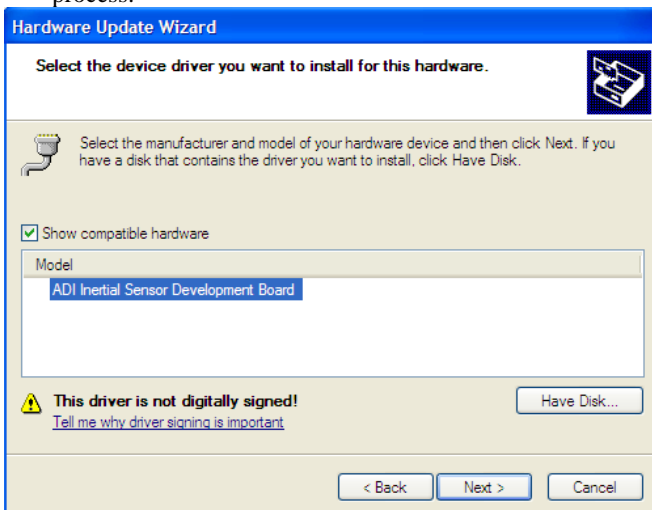

Figure 9. Select ADI Inertial Sensor Development Board Drivers
10. Select **ADI Inertial Sensor Development Board** from the model list (See Figure 9), and click **Next** to complete the process.